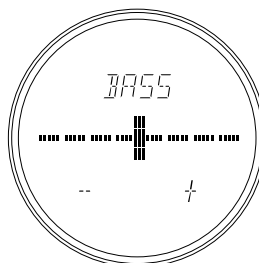

Fig.1
1. Press the **AMP** button **24** once or twice to set the mode of **JOG** control **25** to **TONE** control mode. "**BASS**" or "**TREBLE**" is displayed. (Fig.1)